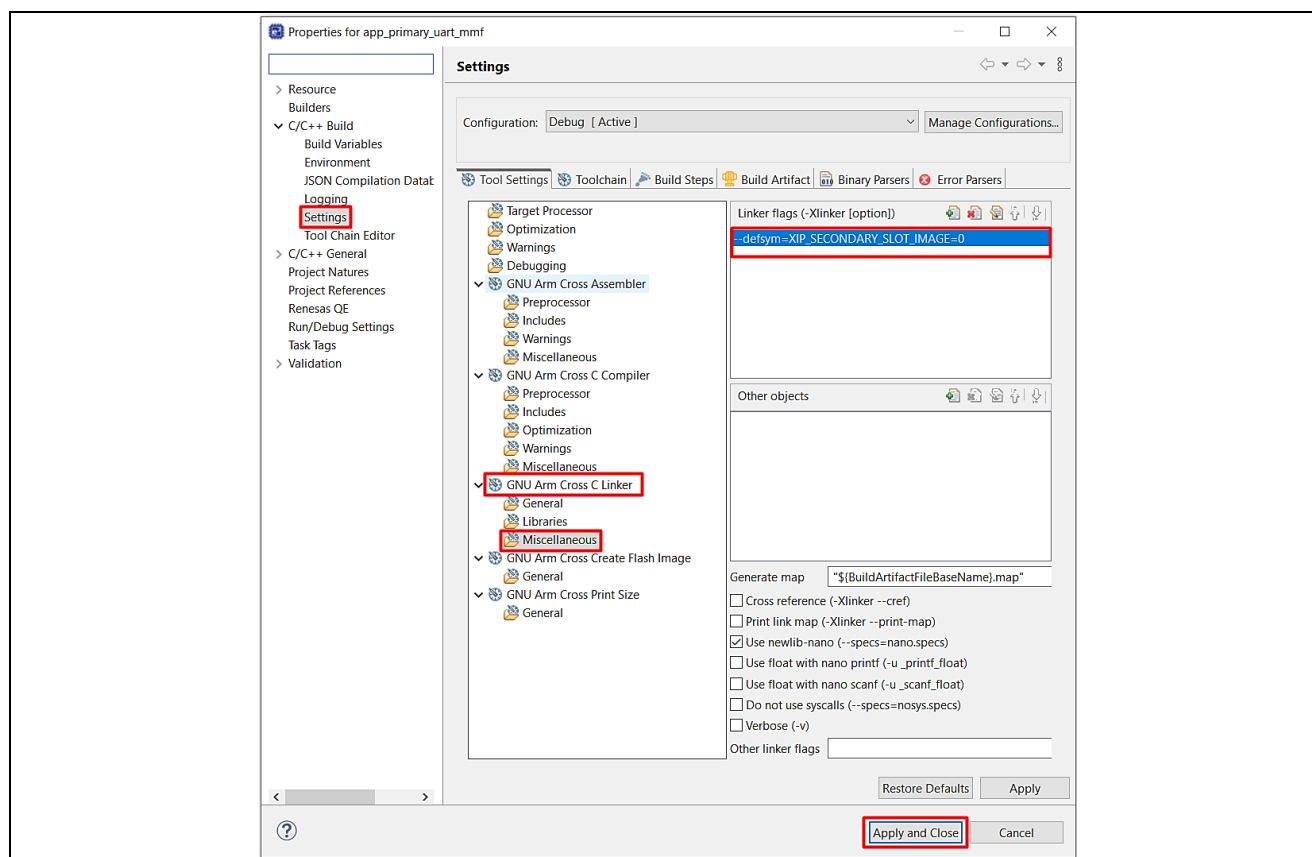

Figure 44. Configure linker flags to link an application to the primary slot
`--defsym=XIP_SECONDARY_SLOT_IMAGE=0` as shown in Figure 44.
- The linker flags of the primary application, as shown in Figure 44, are also automatically imported.